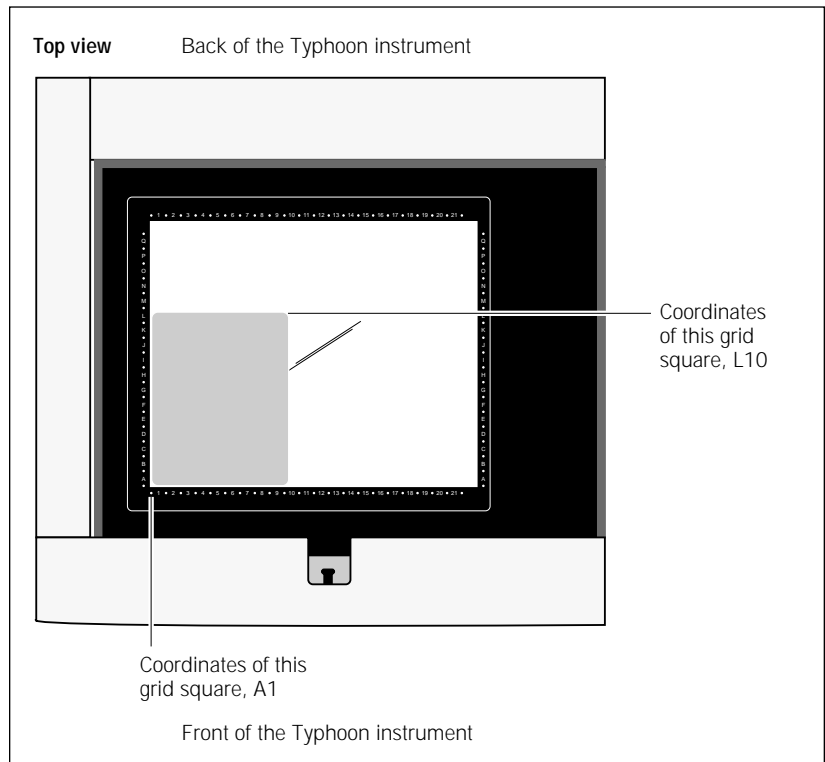

Figure 8-2. Sample placement on the glass platen of the Typhoon instrument.
Use the following guidelines and figure 8-2 to determine where on the glass platen to place the sample:
- Position a rectangular sample so that the shortest edge is along the numbered side of the glass platen as shown in figure 8-2. Because each pass of the scan head moves the entire length of the glass platen (from front to back), placing the longest edge of the sample along the scan head path minimizes the scan time.
4. Make a note of the grid square coordinates of the area you want to scan (figure 8-2). You will use this information later in the Scanner Control window (section 9.2.3).
8. Make a note of the grid square coordinates that are covered by the area of the sample you want to scan (figure 8-2). You will use this information later in the Scanner Control window (section 9.2.3).